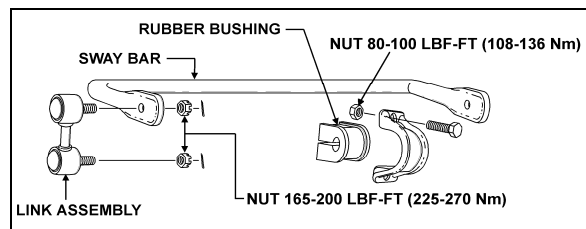

FIGURE 9: FRONT & DRIVE AXLE SWAY BAR
A sway bar is provided on the front axle to increase vehicle stability. It controls lateral motion (swaying movement) of vehicle (Fig. 9).
2. Tighten the eight bushing collar nuts according to Torque Table 1 under heading Torque Specifications (Fig. 9).
3. Tighten sway bar link upper nuts and lower nuts according to Torque Table 1 under heading Torque Specifications (Fig. 9).